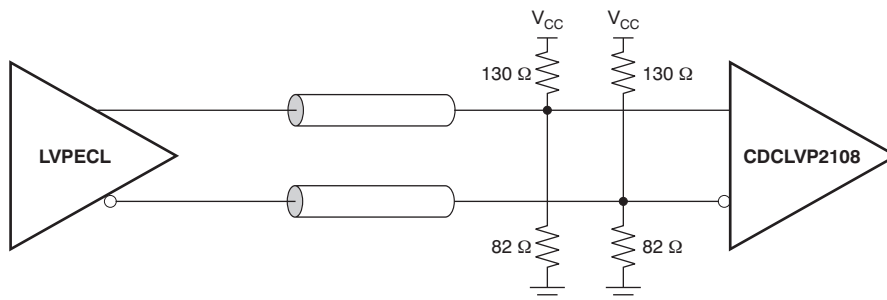
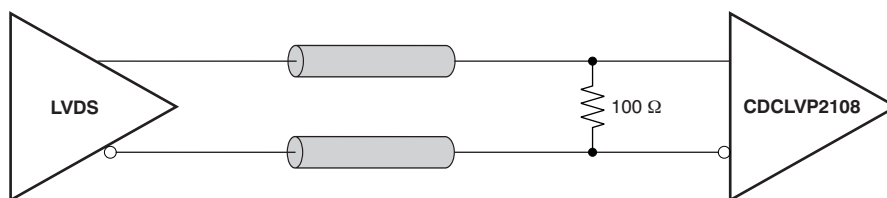

Figure 7. DC-Coupled LVPECL Input During Device Test
Figure 8. DC-Coupled LVDS Input During Device Test
(1) Figure 7 and Figure 8 show DC test setup. Figure 9 shows AC test setup.